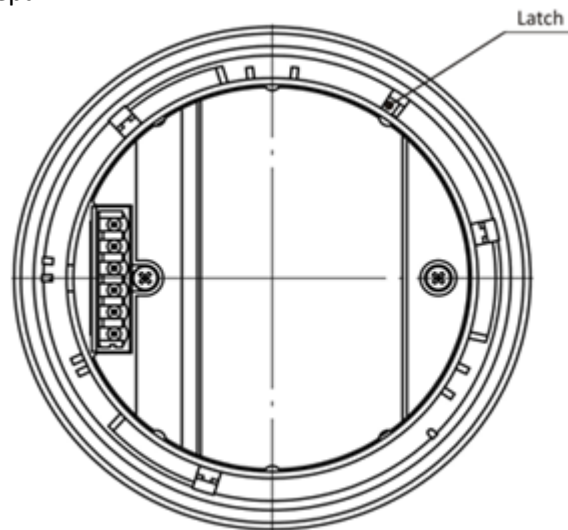
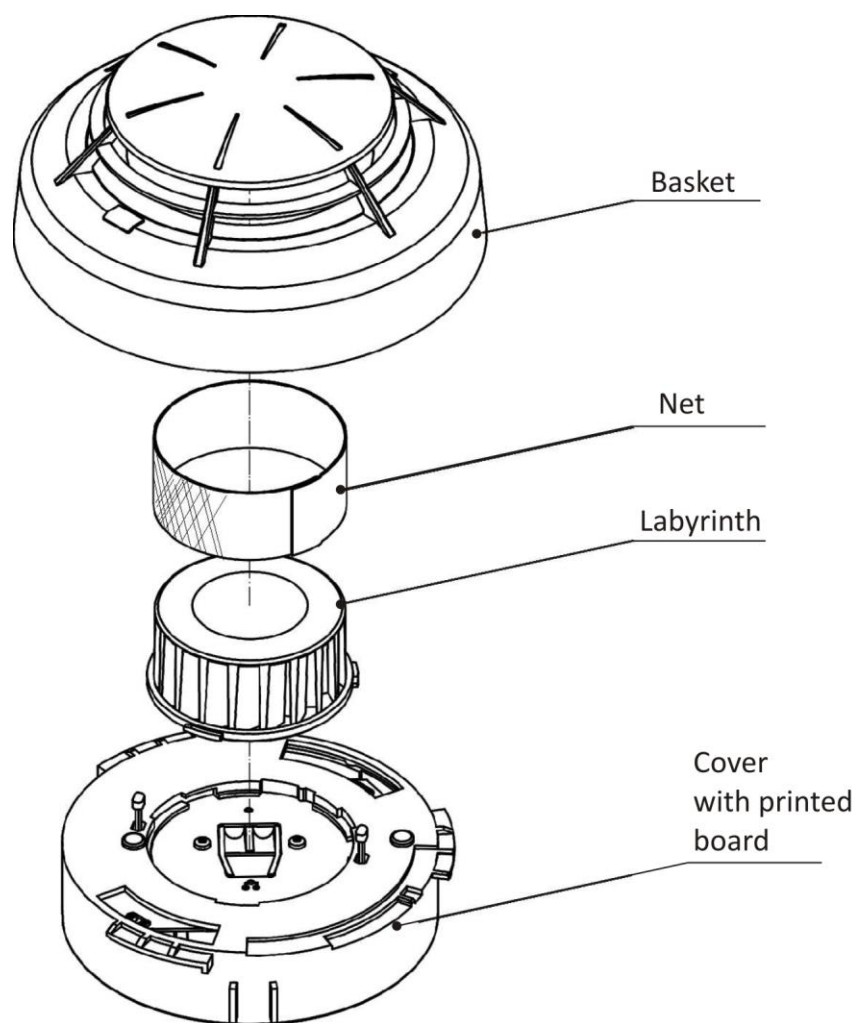

Fig. 1 Detector view from below
Fig. 2 Detector elements after dismantling
The detector assembling and dismantling is shown in Fig. 1 and Fig. 2. In order to dismantle the detector it is necessary to:
- a) press the latch (Fig. 1), turn the cover right in the basket until it is taken out;